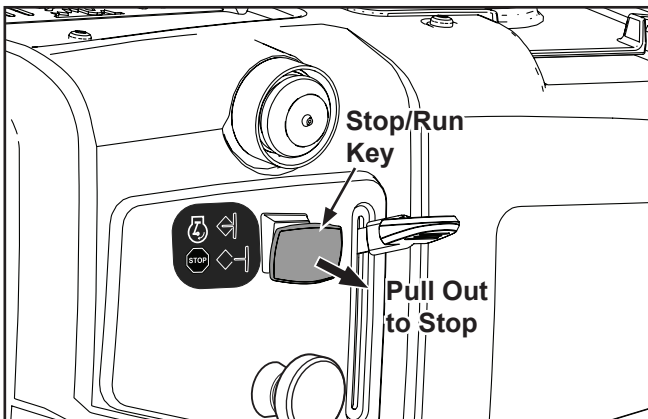

Figure 12. Emergency Stop/Run Key.
1. Pull out the stop/run key. See Figure 12.